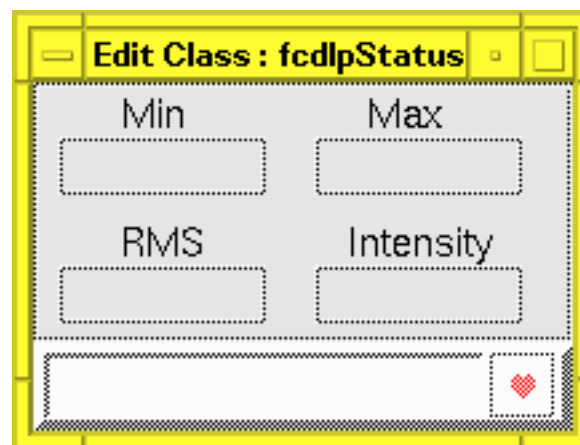

Fig.4 Real-time image processing status GUI class
4. **fcdIplStatus_uifClass**. It displays the status of real-time image processing on SLCU. See also Fig.4 and manual page at section 4.4.